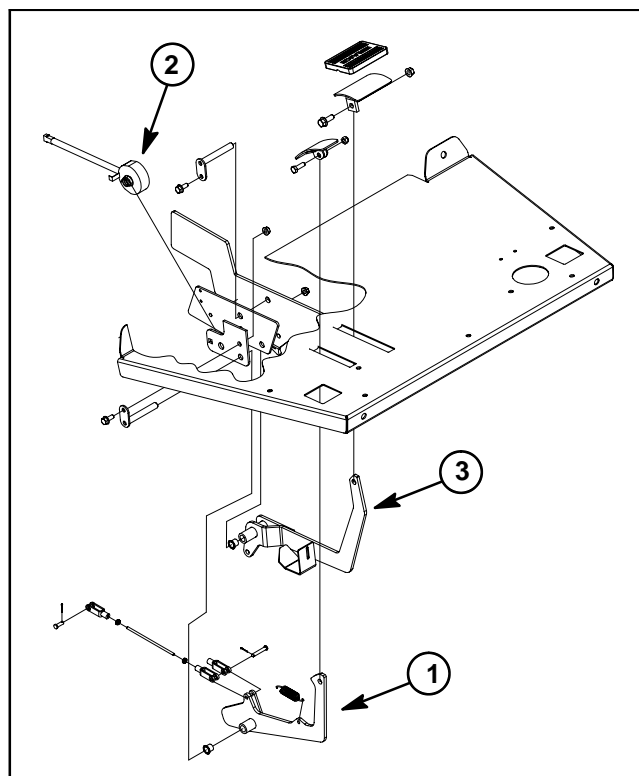

Figure 21
2. Locate control coil next to accelerator lever under the floorboard. Unplug coil connector from machine wire harness (Fig. 21).